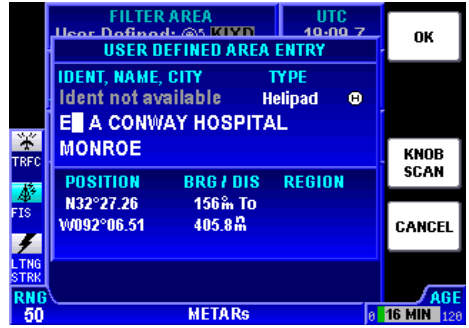

Figure 2-74
5. Move the Joystick to the right to highlight the next character space as seen in Figure 2-74.